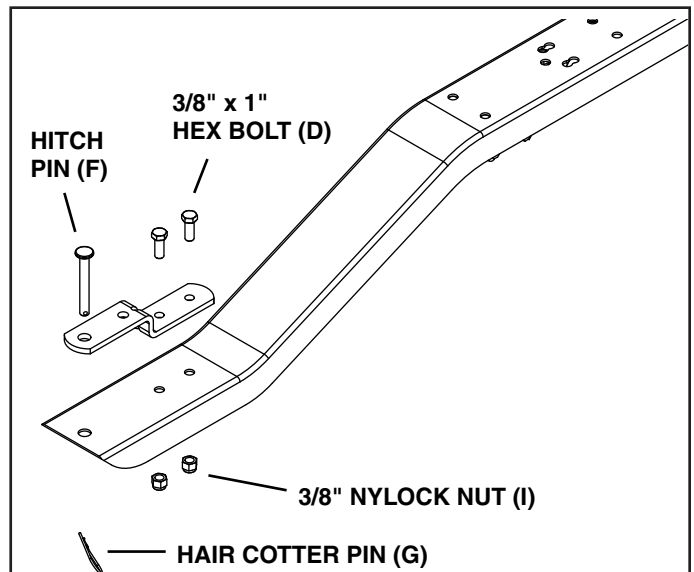

FIGURE 7
8. Assemble the hitch bracket to the tongue using two 3/8" x 1" hex bolts (D) and 3/8" nylock nuts (I). **Tighten.** See figure 7.
9. Assemble the hitch pin (F) through the hitch bracket and the tongue. Secure it with the hair cotter pin (G). See figure 7.